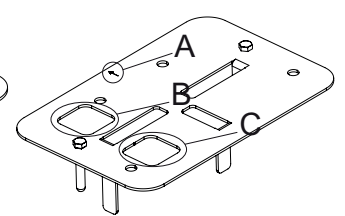

Fig. 4D
- 4) Position the plate so that the arrow (ref. A) is pointing towards the rack (Fig. 4D).
- 5) Insert the corrugated pipes for cables in the square hole (ref. B); the hole can accept one 32 mm pipe and one 25 mm pipe. If additional corrugated pipes are to be installed, open up the second square hole (ref. C) in the plate (Fig. 4D). The corrugated pipes must project 5 cm beyond the plate.